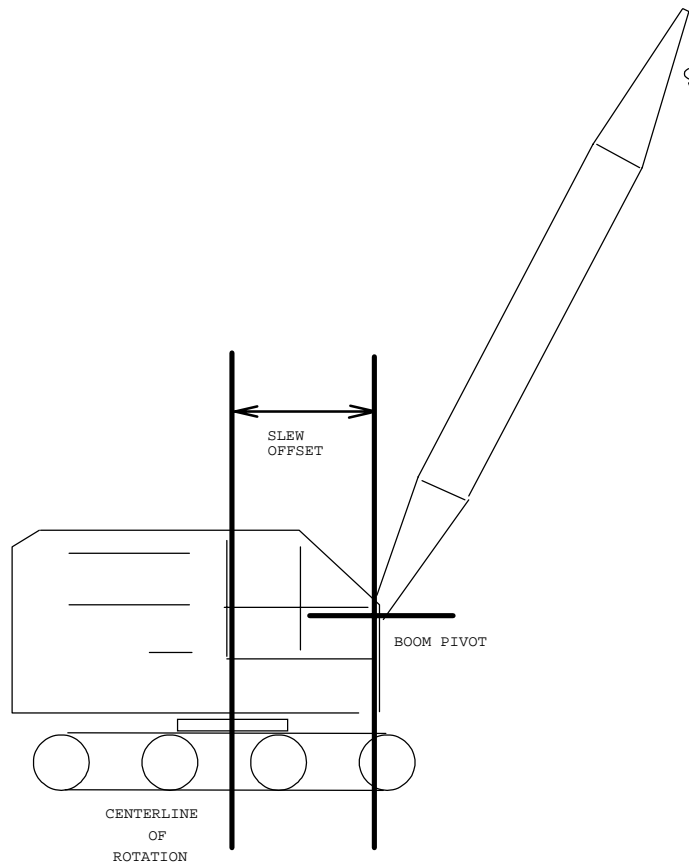

Figure 4
3. Measure the horizontal distance on the crane between the centerline of rotation and the center of the boom pivot pin (Fig. 4) to get the *positive* SLEW OFFSET.